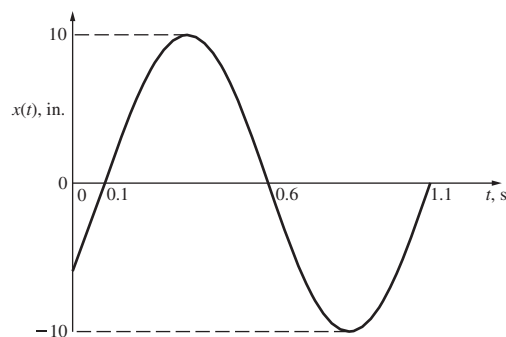

Figure P6.10 Motion of a spring-mass system in the x -direction for problem P6-10.
- 6-10.** Repeat problem P6-8 for the sinusoidal motion shown in Fig. P6.10.